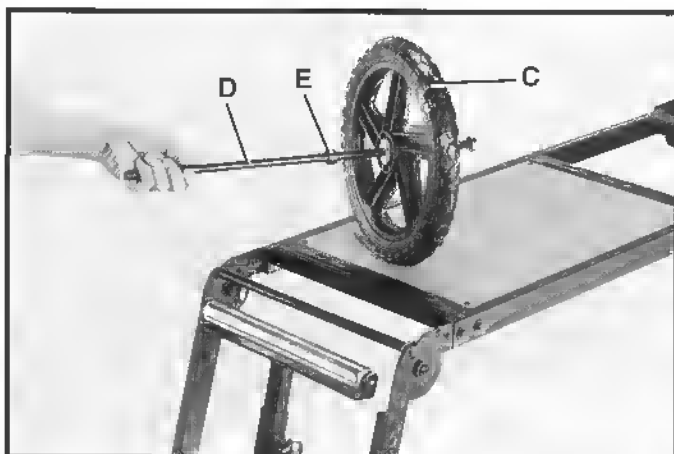

Fig. 17
2. Place wheel (C) Fig. 17, on axle (D) against the axle cap that was assemblad to axle in **STEP 1**, and slide spacer (E) on axle and against wheel.